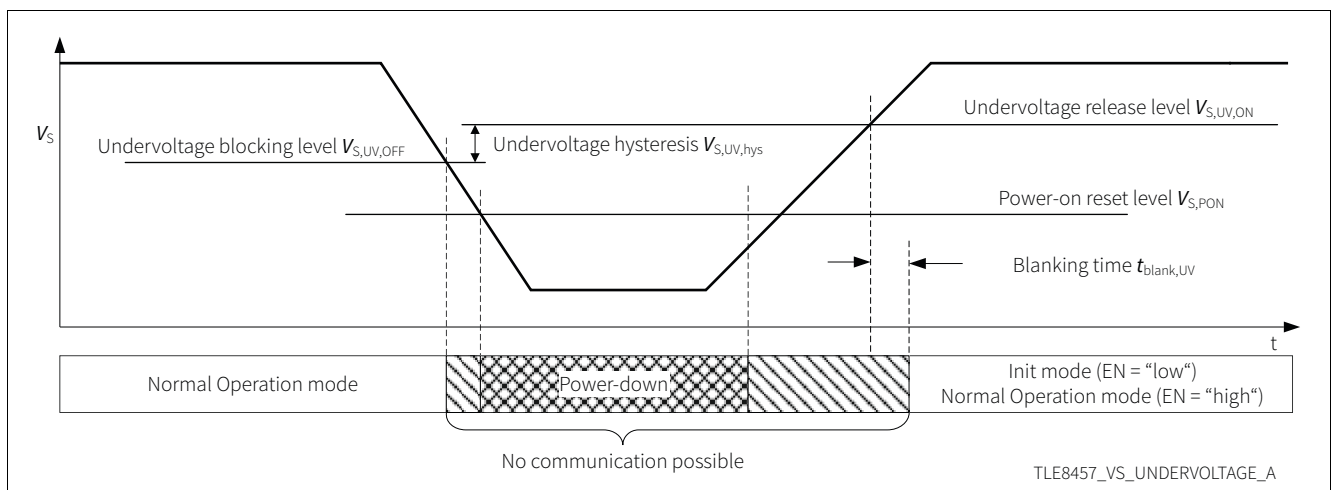

Figure 10 V_S undervoltage detection
- When the power supply V_S drops below the power-on reset level $V_{S,PON}$ the TLE8457A / TLE8457B not only blocks the transceiver communication, it also changes the operation mode to init mode after recovery of V_S , see Figure 10. In init mode the TLE8457A / TLE8457B indicates a power-up event on the RxD pin. The power-on reset detection is active in all operation modes.